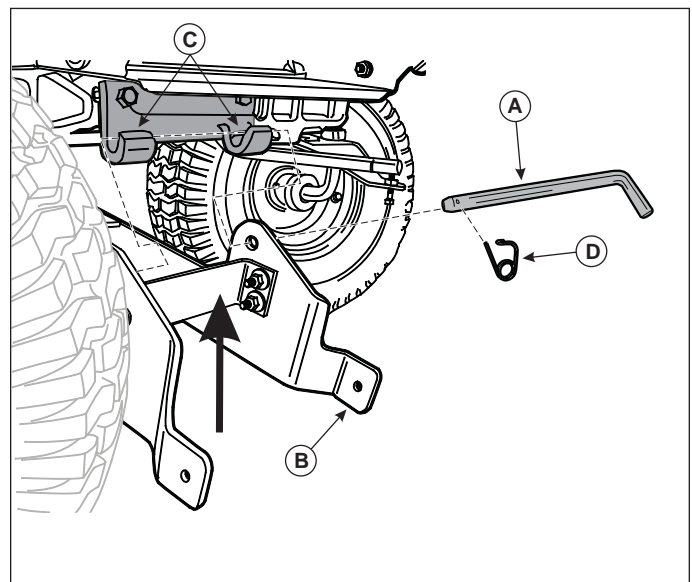

Figure 13. Hitch Latch Pin Installation
5. At front of the machine, locate and remove the hitch latch pin (A, Figure 13) from the hitch assembly (B).